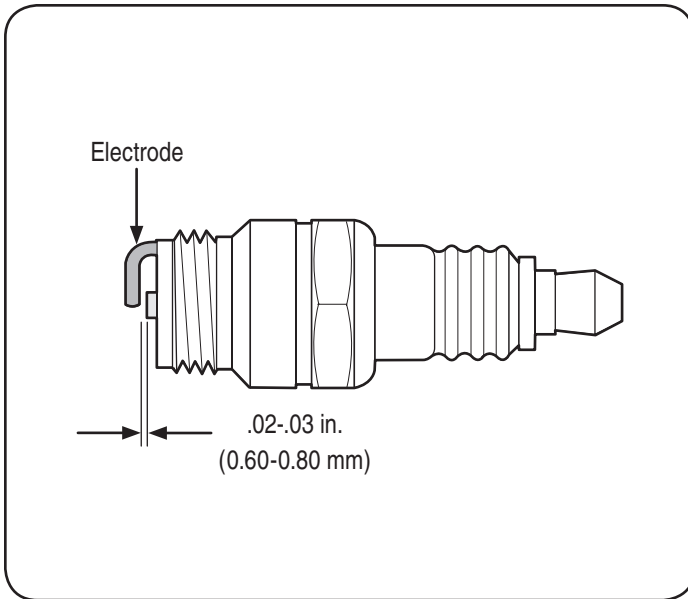

Figure 16
5. Measure the plug gap with a feeler gauge. Correct as necessary by bending the side electrode, Figure 16. The gap should be set to .02-.03 inches (0.60-0.80 mm).